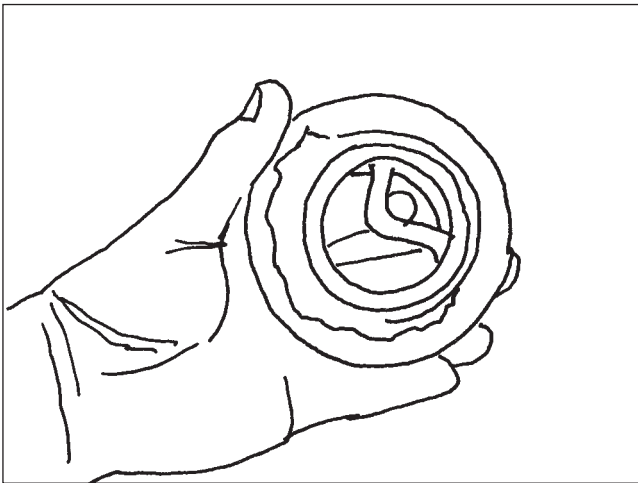

Figure 24
8. Remove the sector shaft seal and O-ring from the cover (Figure 24).